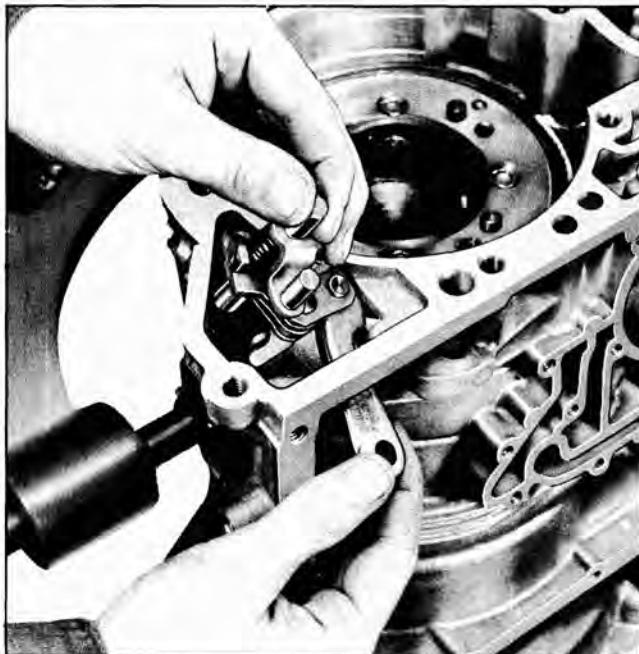

Fig. 123 Installing Parking Linkage in Case
2. Install parking assembly, parking pawl first, through hole in rear of case so that pawl tooth faces inside of case (Fig. 123.).